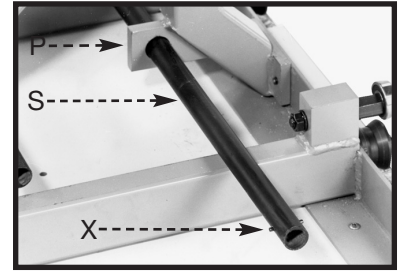
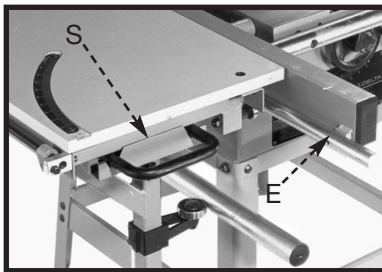

Fig. 32
Fig. 33
7. Insert the roll pin (X) in the end of the handle rod (S) Fig. 32.
**NOTE:** The roll pin (X) prevents the handle (S) from pulling out of the support frame (P).
8. Slide the table assembly on the upper rail with the handle (S) Fig. 33 in the front position.